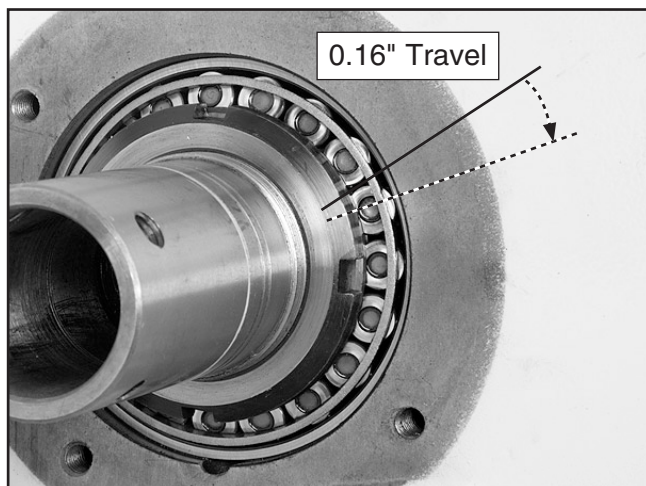

Figure 58. Final spanner nut rotation.
11. To set the preload, tighten the spanner nut an additional 0.16" along its circumference. See **Figure 58** for the example of this measurement.